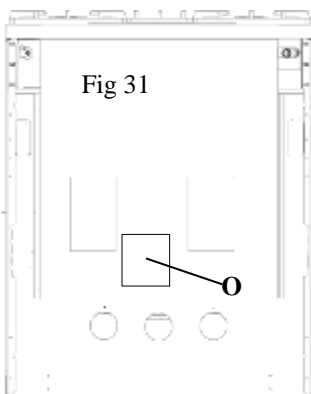

Fig 31
- Remove access door O (Figure.31).